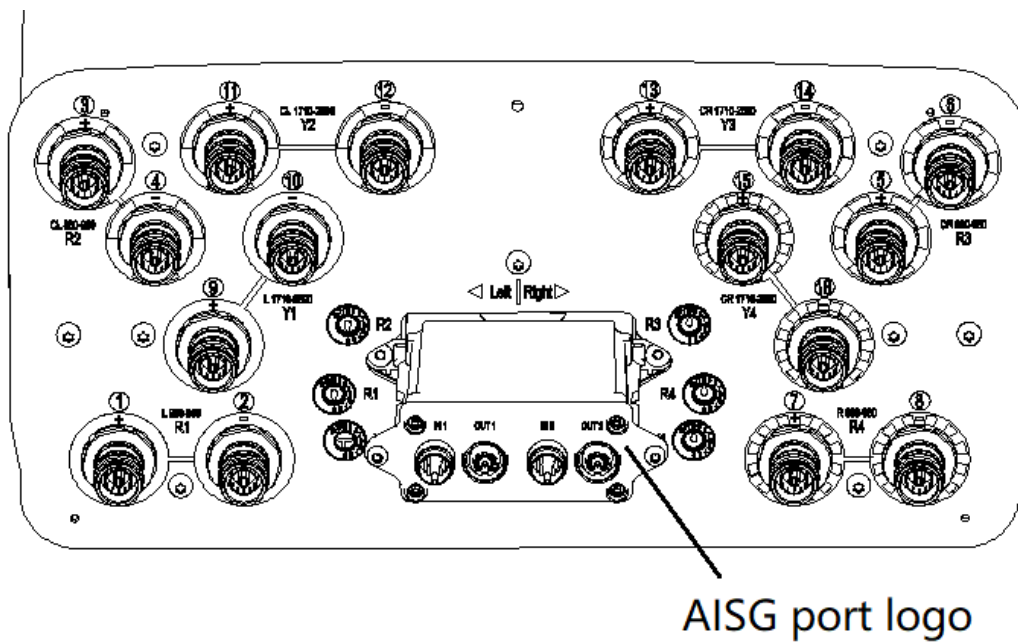

Figure 2 MIRCU Alignment
- a) As shown in Figure 2, "AISG OUT" logo on Antenna cover need to be aligned with MIRCU "IN" and "OUT", then insert MIRCU into antenna mounting slot.